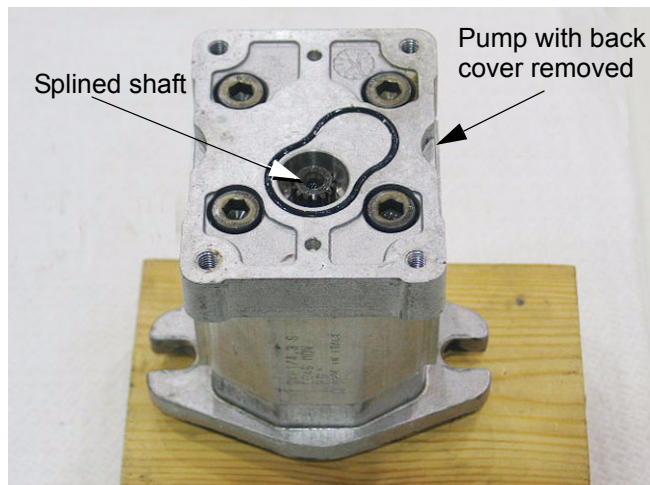

Figure 10.2
- 10.2. The back cover can be removed from the pump by removing the four socket head cap screws. See Figure 10.2.